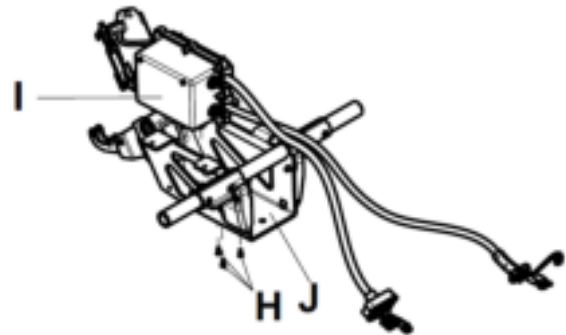

Figure 2
6. Using a T20 Torx drive, remove the three pan head tapping screws (H) that secure the HBC enclosure assembly (I) to the birdcage (J) (Figure 2). Save the screws.